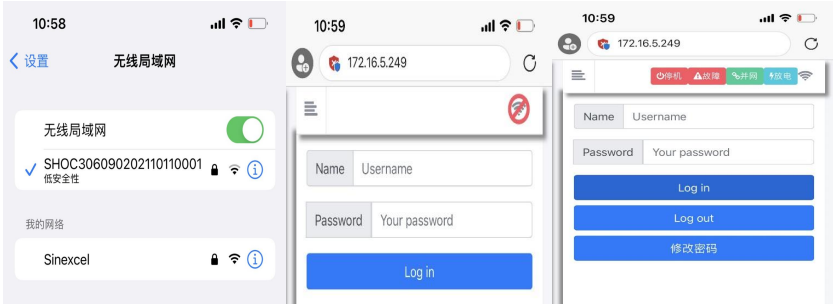
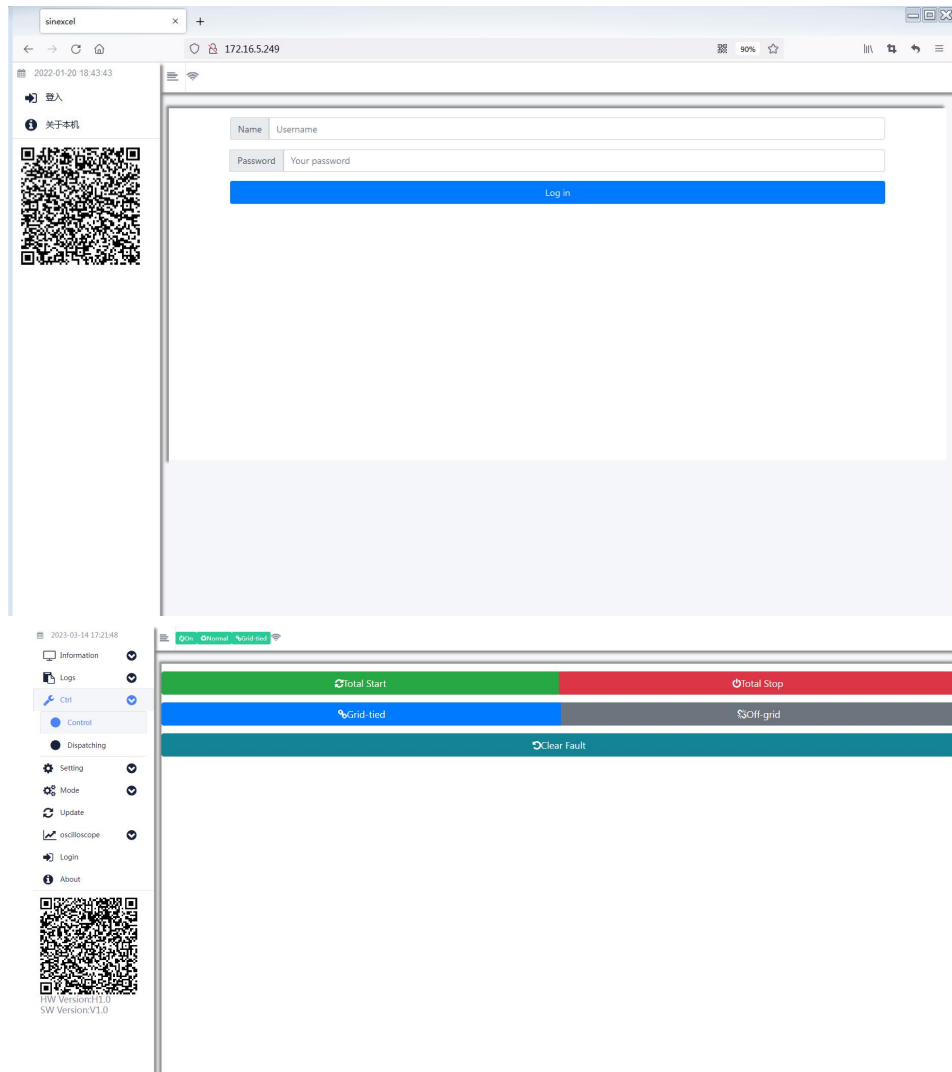

Figure 4-1 Mobile phone login and operation interface
Figure 4-2 IP login and operation interface
1. **Use WIFI connection (Apple phone as an example).** First, please open the unlimited area network on the phone settings, search the network to find the corresponding serial number of the device, enter the WIFI password "12345678", and connect to this network, as shown in Figure 4-1. Then open the browser on the phone, enter 10.10.10.1 in the URL bar, the login screen appears as shown in Figure 4-1, finally, enter "admin" into the "Name" input box and "123456" into the "Password" input box, and click "Log in" to enter the background operation interface, as shown in Figure 4-2, after logging in to **monitoring settings**, reset the IP and subnet mask and gateway, in line with the local settings, so that IP communication can be carried out, see the background display instructions section.
2. **Use Ethernet connection.** First, please open a browser on your desktop (Google/Firefox is recommended), then enter the IP address you set in the previous step in the URL bar of the browser, and the login screen will appear as shown in Figure 4-2, finally, enter "admin" into the Name input box, finally, enter "admin" in the "Name" input box and "123456" in the "Password" input box, and click "Log in" to enter the background operation interface, as shown in Figure 4-2.